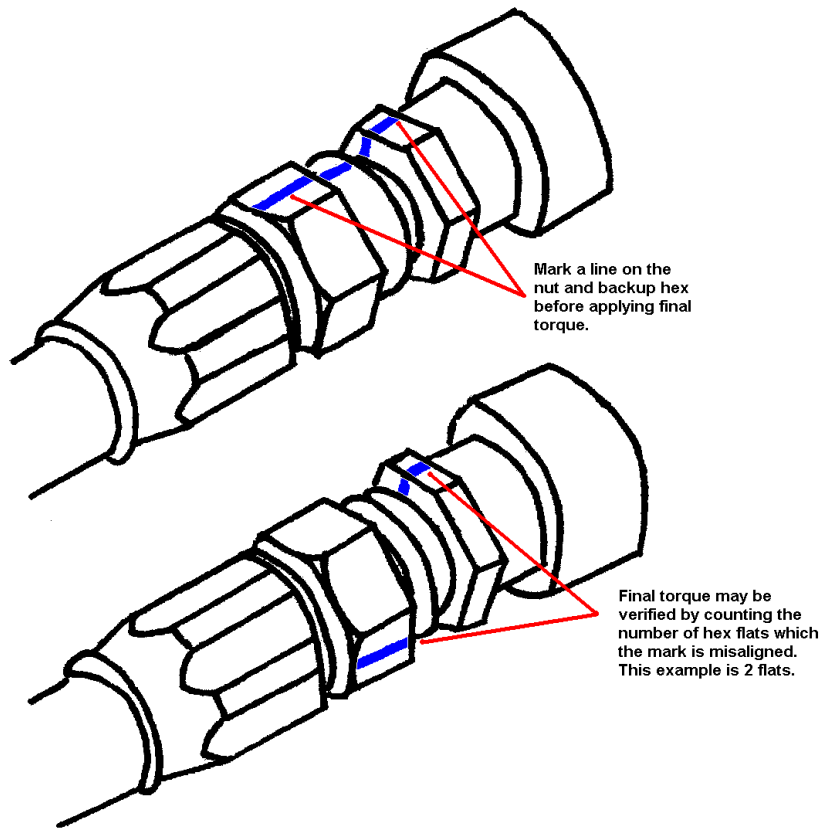

Figure 2 - Flats Method of verifying coupling torque.
7. If a torque wrench cannot fit into the coupling area or if it is unavailable, flats method may be used to ensure that the coupling is properly tightened, as shown in figure 2.
the threads engaged the hex can no longer be rotated by hand. Mark a line across the coupling nut and backup hex for flats method verification of coupling torque, as shown in figure 2.
Once the couplings have been attached with the proper torque the installation may be verified with the flat method, as shown in figure 2. The mark placed on the nut and backup hex after hand tightening should have rotated 1 to 1.5 flats during final tightening. The flat method may also be used in situations where couplings are inaccessible with the torque wrench to ensure that the coupling is tightened properly. At this point in time, if desired, the nut and backup hex may be marked to indicate if the coupling loosens over time.